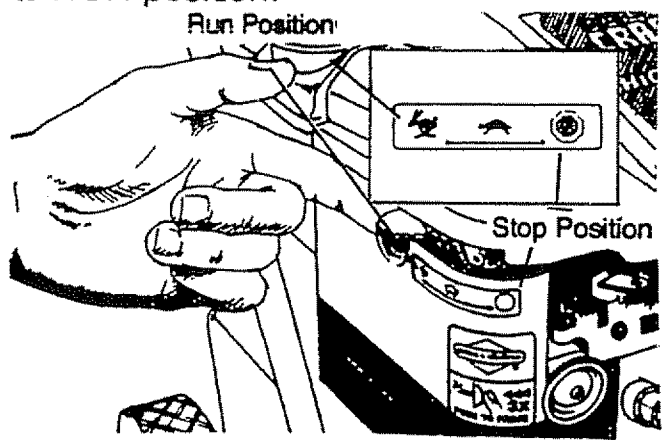

FIG. 12
- Place the pressure washer in an area close enough to an outside water source that can flow at a rate of three (3) gallons per minute. Connect a garden hose to the water spout.
- Adjust engine throttle control to RUN position (Fig. 12).
- First, move engine throttle lever to "STOP" position (Fig. 12).